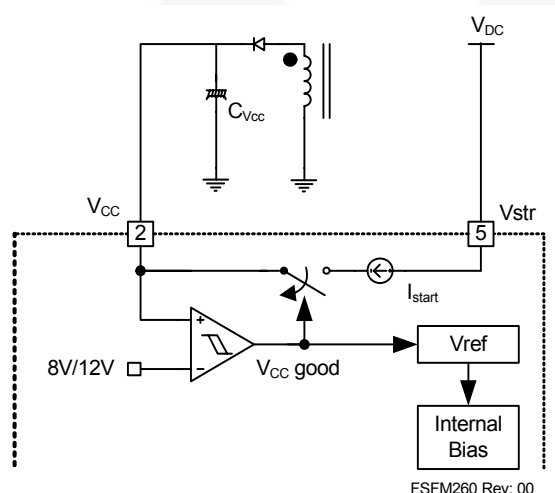

Figure 16. Internal Startup Circuit
1. Startup: In previous generations of Fairchild Power Switches (FPS™), the V_{CC} pin had an external startup resistor to the DC input voltage line. In this generation, the startup resistor is replaced by an internal high-voltage current source. At startup, an internal high-voltage current source supplies the internal bias and charges the external capacitor (C_{VCC}) connected to the V_{CC} pin, as illustrated in Figure 16. When V_{CC} reaches 12V, the FSFM260/261/300 begins switching and the internal high-voltage current source is disabled. Then, the FSFM260/261/300 continues its normal switching operation and the power is supplied from the auxiliary transformer winding unless V_{CC} goes below the stop voltage of 8V.